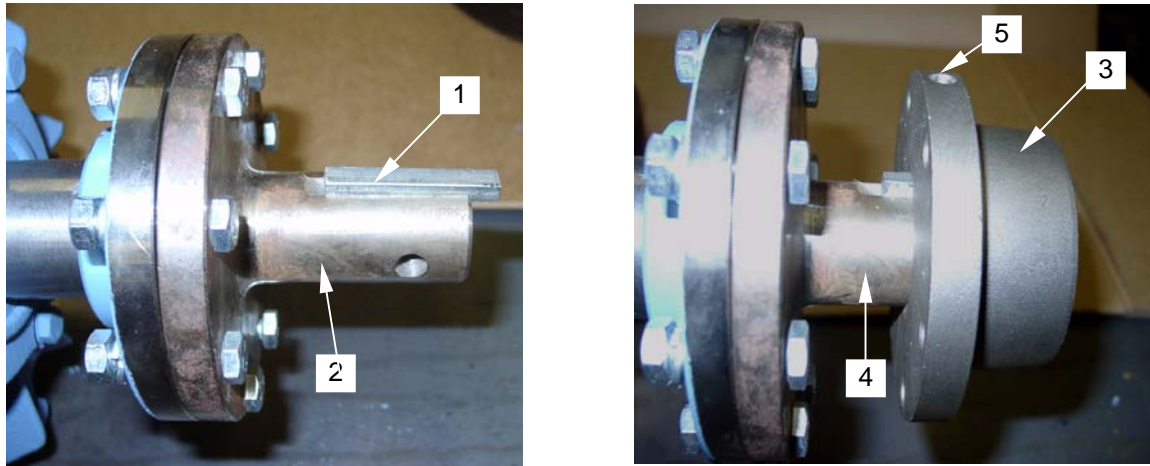

Figure 9. Installing Pulley Adapter
13. Place retained or new key (**figure 9, item 1**) into position on the flanged pump shaft extension (**figure 9, item 2**).
14. Install pulley adapter (**figure 9, item 3**) over key on the flanged pump shaft extension (**figure 9, item 4**). Do not install/tighten set screw (**figure 9, item 5**) at this time.